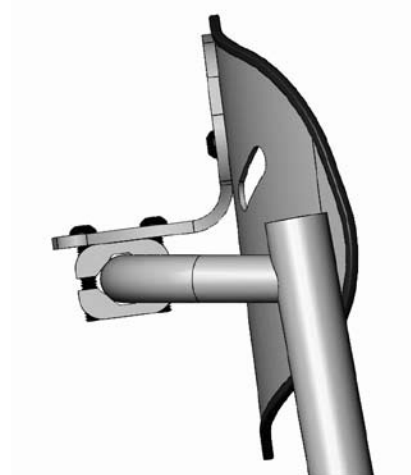

Fig. 4
5. Attach the Shell/Cushion assembly to the Mounting Bracket using (2) 1/4-20 x 0.5 in. Button Head Cap Screws and Washers. **(Fig. 4)**